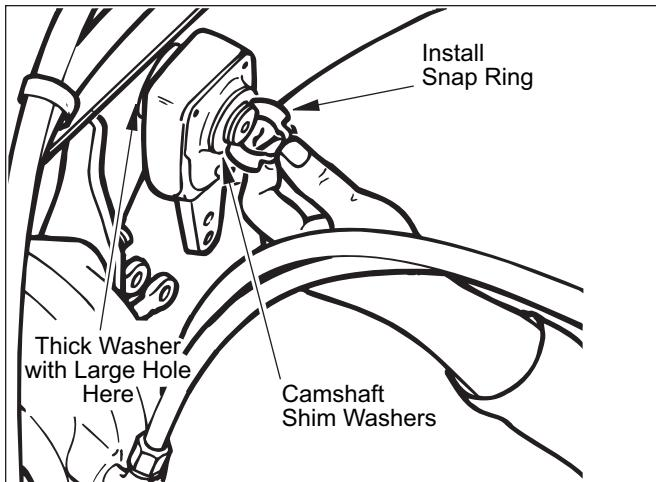

Figure 54. Shim Washer and Snap Ring Installation
2. Install brake adjuster inner washer on camshaft. Washer is identified by its 0.060" thickness and larger hole (see Figure 54).
5. Install camshaft shim washers and snap ring. Refer to Figure 54.